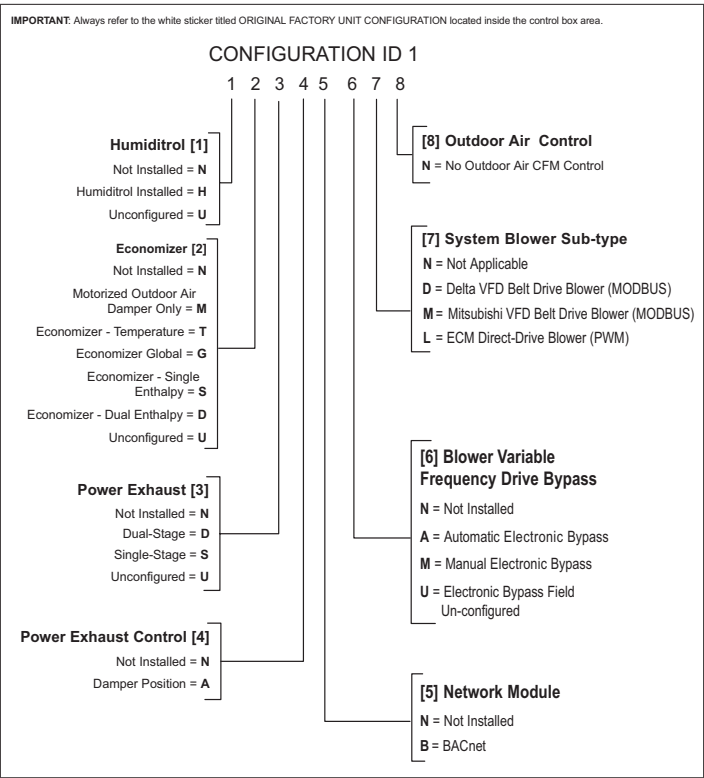
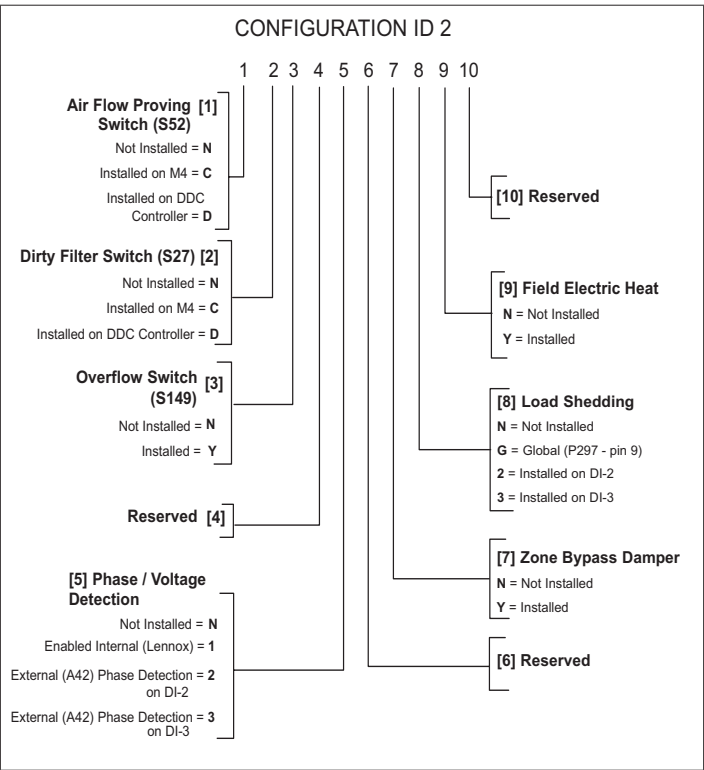

Figure 6. Configuration ID 1
Figure 7. Configuration ID 2
- RTU Information. Configuration ID 1 and 2 can be entered here. See “Figure 6. Configuration ID 1” on page 12 and “Figure 7. Configuration ID 2” on page 12 for further details.